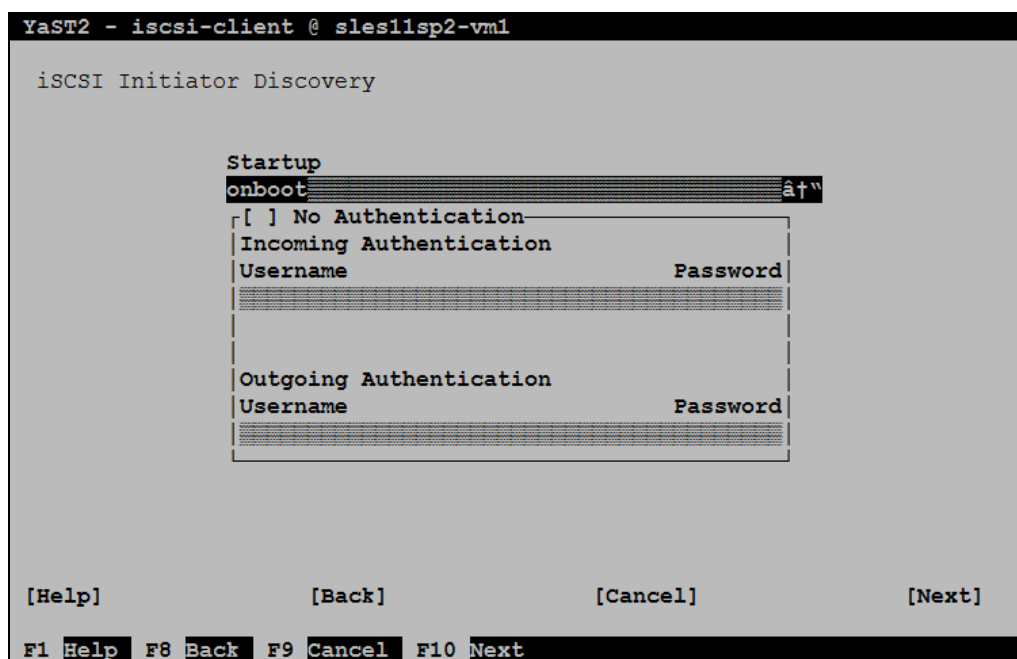

Figure 7-16 Login targets
- b. Select Next, as shown in Figure 7-16, and repeat the same procedure for each target.